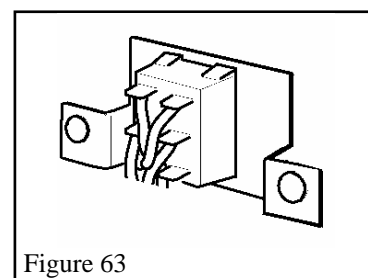

Figure 63
- Snap fit the switch into the opening in the switch mounting bracket. See figure 63
- Snap fit the switch into the opening in the switch mounting bracket. See figure 63.